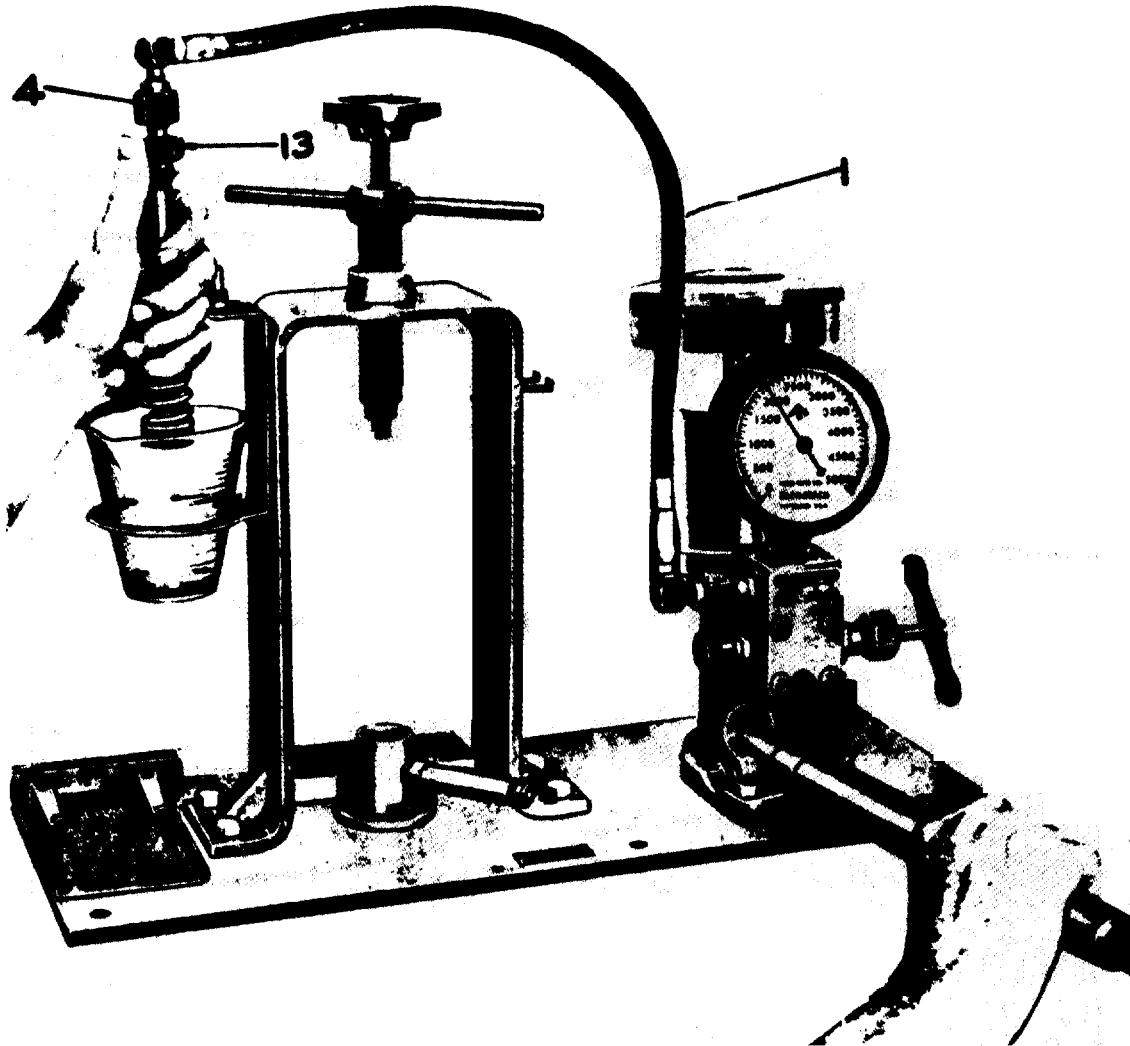

FIG. 3 Inlet Connection Leakage Test
Fuel inlet connection check valve is checked for leakage (Figure 3) by screwing end of inlet connection normally screwed into injector body into female threads of ADAPTER (13) and connecting ADAPTER to FLEXIBLE CONNECTOR (1) with CONNECTOR NUT (I). There should be no leakage at 2,000 psi.